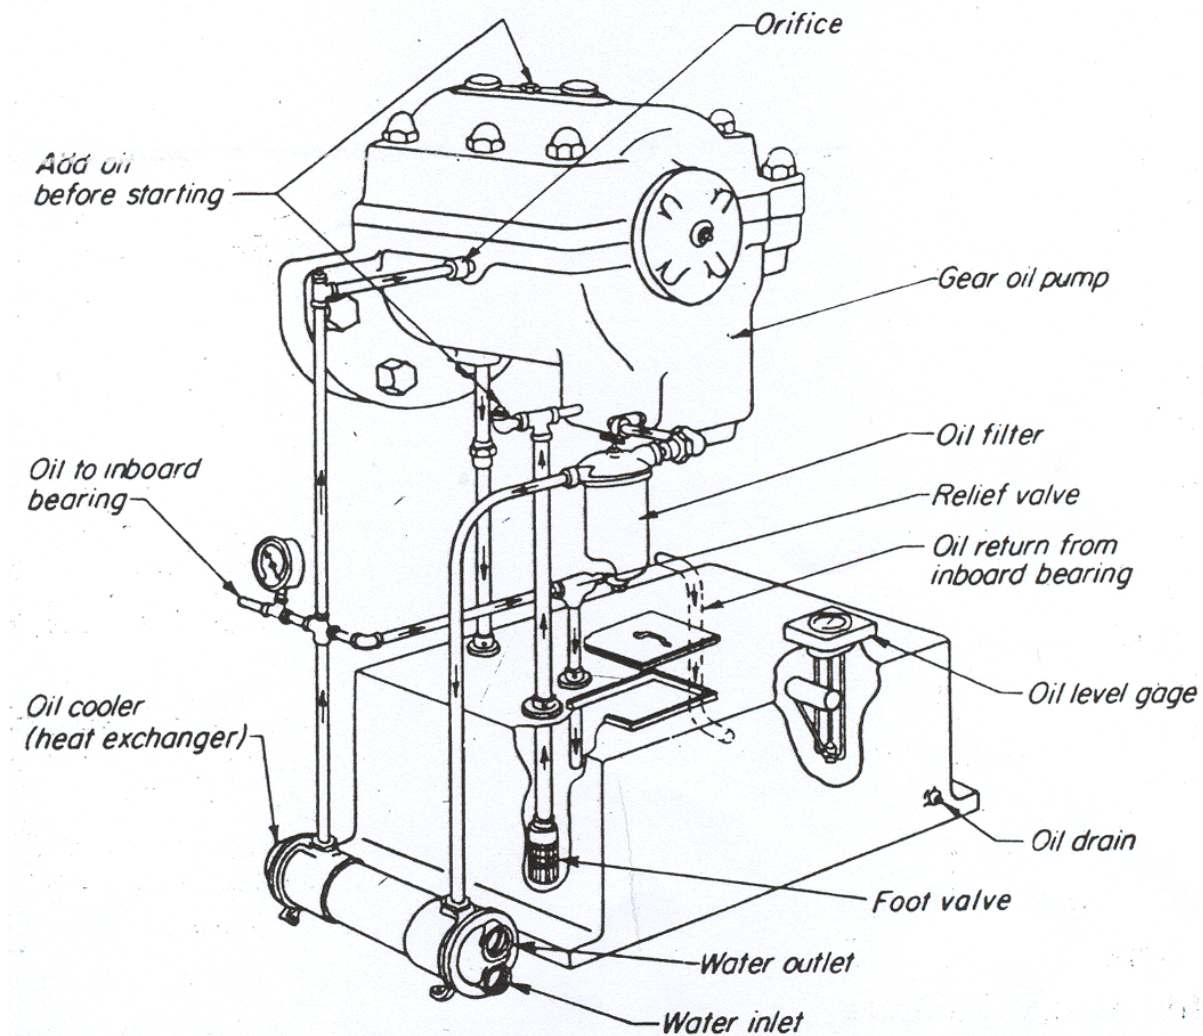

Figure 43 Typical forced lube-oil system. (Courtesy of Ingersoll – Rand Co. )
**Lube-oil Systems.** Figure 43 shows a. typical forced-feed lube-oil system for a horizontal multistage centrifugal pump. It consists of an integral gear-type oil pump mounted within the thrust-bearing housing and taking its suction from an oil reservoir mounted below the pump shaft, as shown, a: tubular oil cooler, piping, and pressure and level